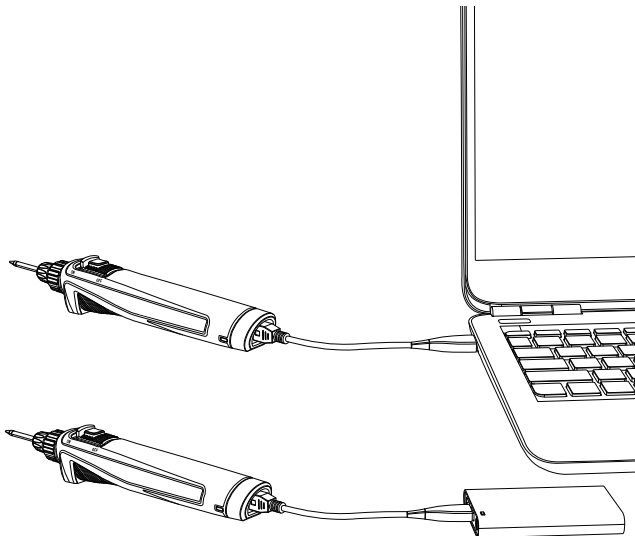

FIG. 3
- The LED indicator light will turn to green when fully charged (Fig. 3).